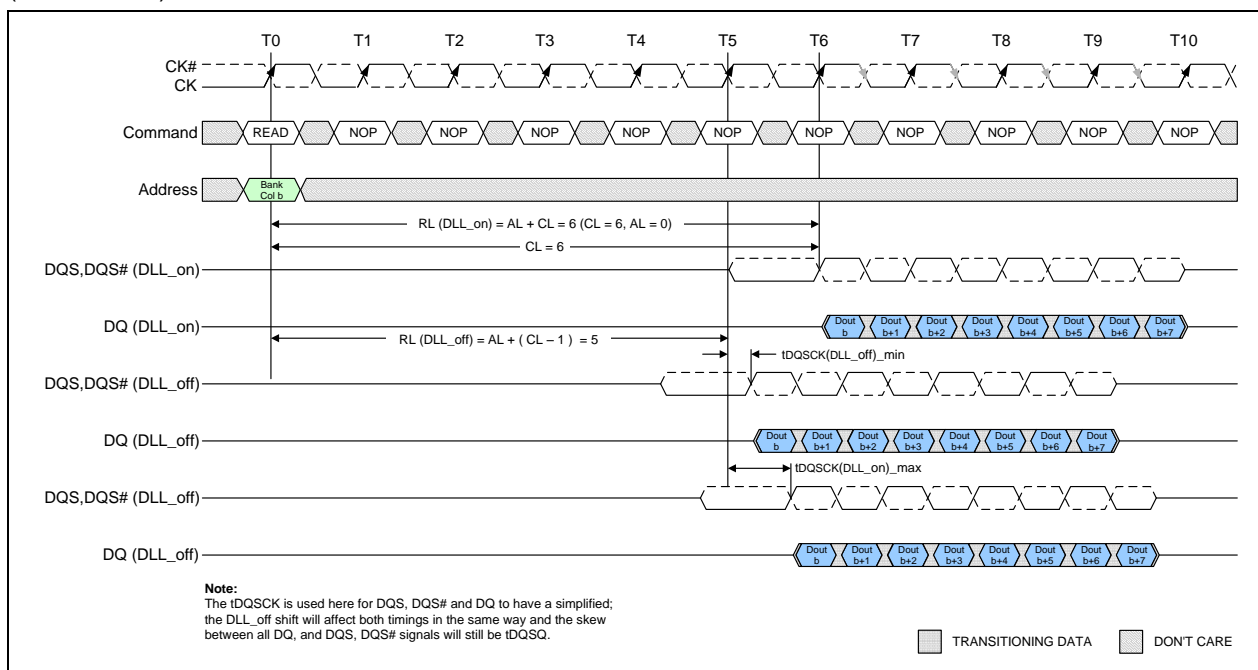

Figure 9 – DLL-off mode READ Timing Operation
3. If the Rtt_Nom feature was enabled in the mode register prior to entering Precharge power down mode, the ODT signal must continuously be registered LOW ensuring RTT is in an off state, as shown in Figure 9. If the Rtt_Nom feature was disabled in the mode register prior to entering Precharge power down mode, RTT will remain in the off state. The ODT signal can be registered either LOW or HIGH in this case.